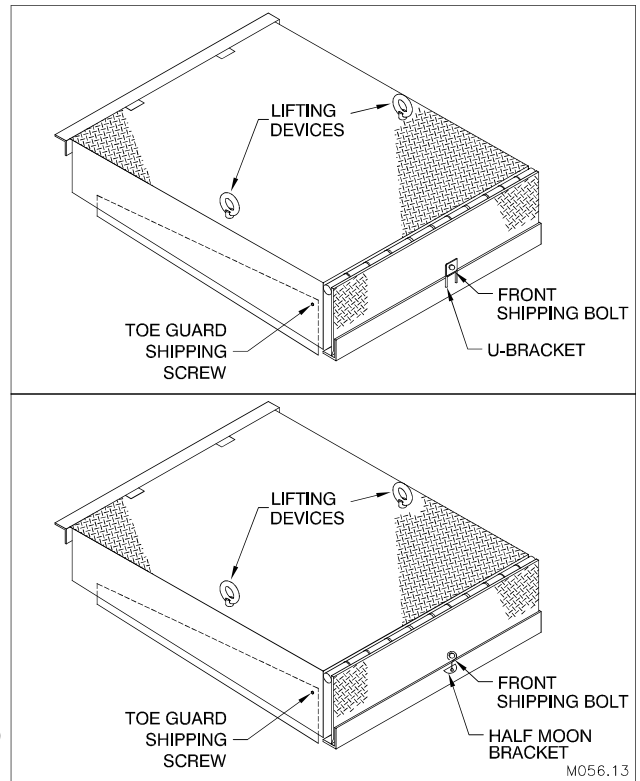

Figure 46: Shipping Wire, Bolts, and Lifting Devices.
12. Remove the top shipping bolts (if equipped) and front shipping bolts and lifting brackets. (See “Figure 46: Shipping Wire, Bolts, and Lifting Devices.” on page 37)